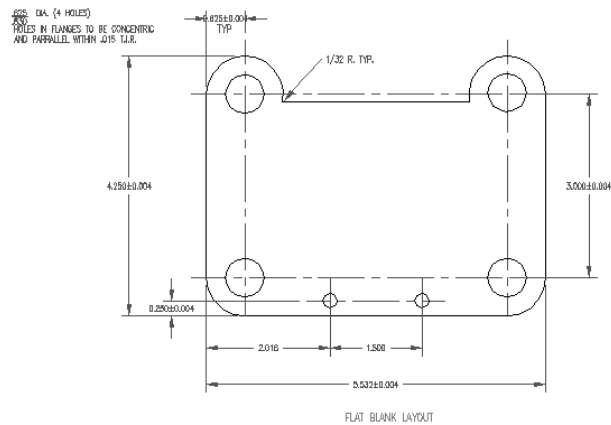

Figure 15-35: The dimensions have been added.
12. Save your drawing. It should look like Figure 15-35.